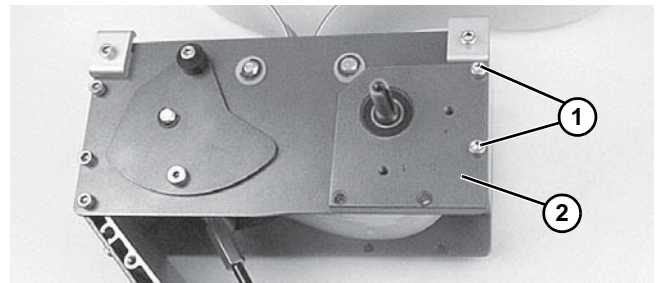
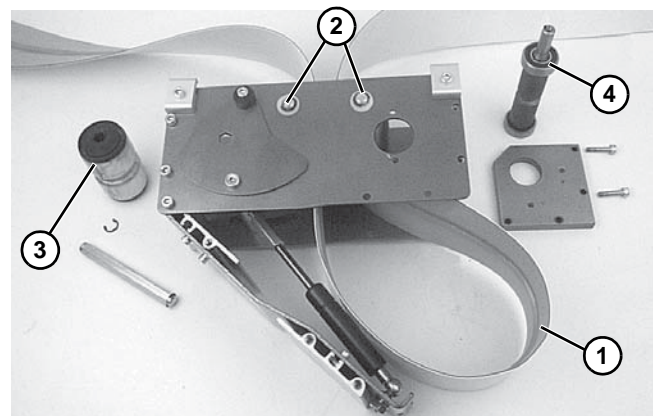

Figure 36
Figure 42
1. Remove drive plate screws (**Figure 36, item 1**). Remove the tension drive plate (**Figure 36, item 2**).
2. Place loop of belt (Figure 42, item 1) into the drive module between top idler pulleys (Figure 42, item 2).
3. Place grooved idler pulley (Figure 42, item 3) into the belt loop and install it in the drive module. Refer to "Belt Removal from Drive Module" on page 15 and reverse step 3.
4. Place drive pulley (Figure 42, item 4) into the belt loop and install it in the drive module. Refer to "Belt Removal from Drive Module" on page 15 and reverse steps 1 and 2. Tighten screws (Figure 36, item 1) to 80 in-lb (9 Nm).